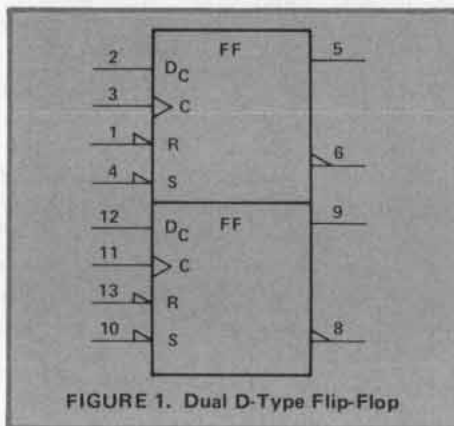

FIGURE 1. Dual D-Type Flip-Flop
The dual D-type flip-flop shown in Figure 1 consists of two independent D-type flip-flops with inputs on the left and outputs on the right. The information present at the data (D_C) input is transferred to the active-high and active-low outputs on a low-to-high transition of the clock (C) input. The data input is then locked out and the outputs do not change again until the next low-to-high transition of the clock input.